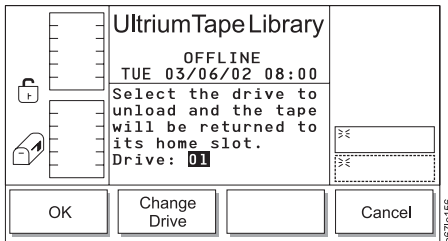

Figure 4-97. Unload Dialog
3. Press the button below the **Unload** softkey. The Unload Dialog displays (see Figure 4-97).